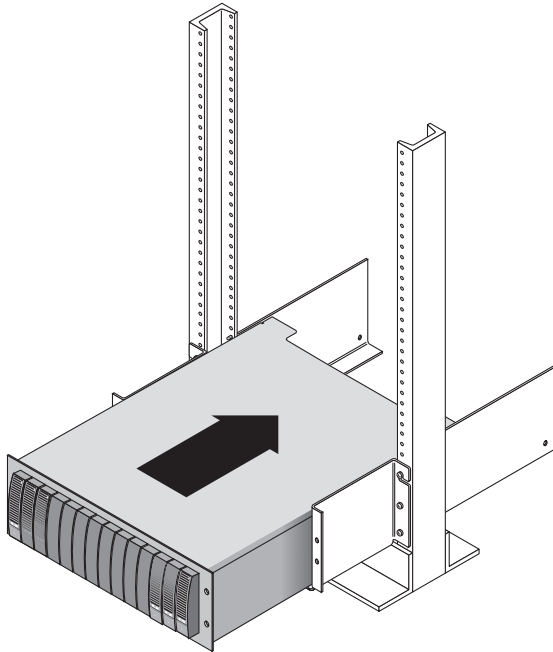

FIGURE 8 Sliding the Array Module Into the Telco 2-Post Rack
3. Carefully slide the array module onto the mounting rails until the front bezel of the module contacts the rail flange on each side (FIGURE 8).